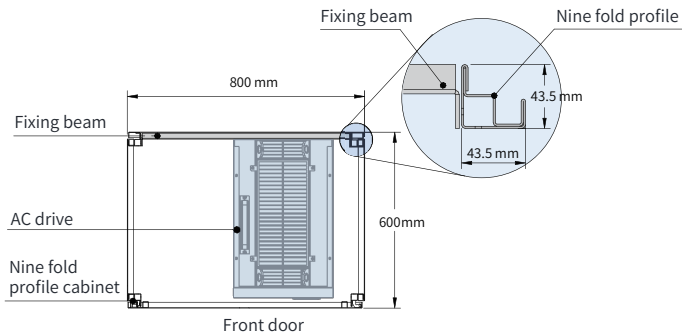

Figure 2-13 Top view of structures T10 to T12 in the cabinet
1	Install the fixing beam in the nine fold profile cabinet, as shown in Figure 2-13.
- 1) A nine-fold profile cabinet (PS cabinet) is recommended for installation of the AC drive. The cross section of the nine-fold profile cabinet is shown in Figure 2-13.